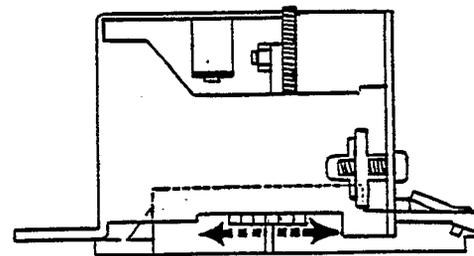

Figure 4-23.
4. To adjust vertical alignments, print a series of eights and ones, as shown in Figure 4-23. Rotate the strobe cap until all vertical dots are in line. Tighten.